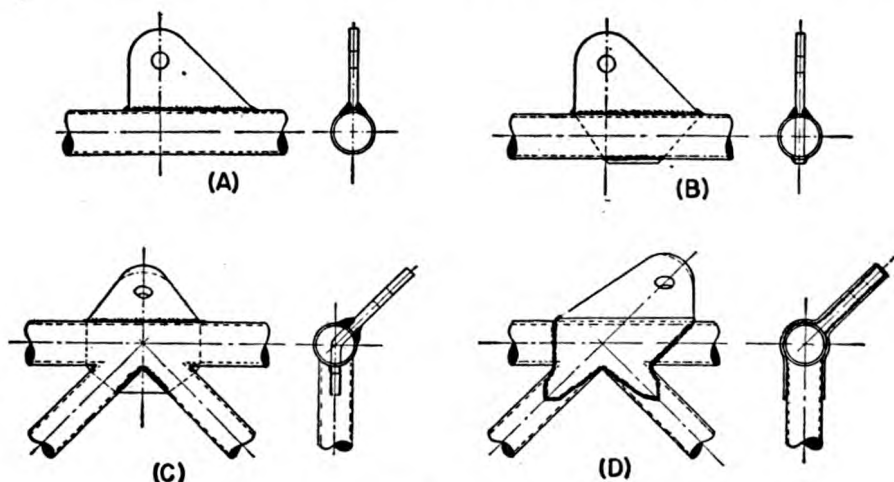

Figure 64.—Types of fittings.
How fittings are welded to tubular parts depends on the load stress they must bear. Those which carry only moderate loads and are not subject to vibration stresses are welded to ONE WALL only of the tube as in (A) of figure 64.
If your fitting or lug must transmit high stress, you must weld it to its supporting tube at MORE THAN ONE POINT. Look at (B) in figure 64. Here the tube is slotted top and bottom and your fitting is pushed all the way through the tube, then